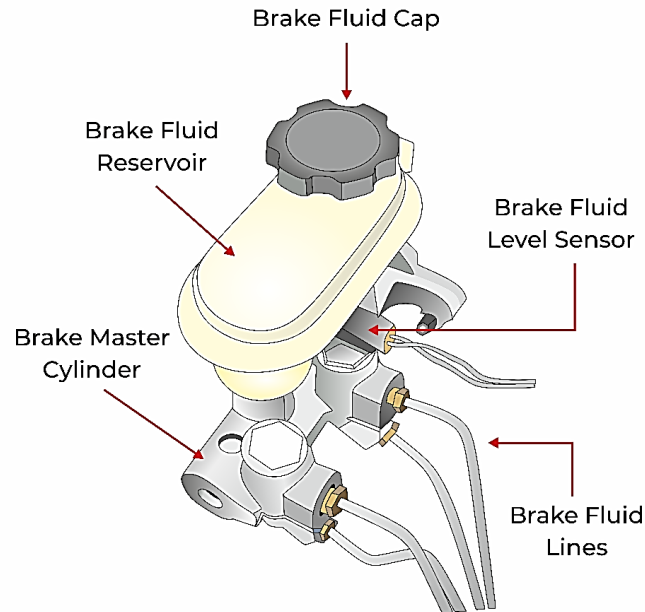

Fig. 2.12: Master cylinder
2. Inspect the brake master cylinder and adjoining brake lines for signs of fluid leakage. Remove the master cylinder cover (Fig. 2.12). Fluid must be clear and fluid level should be within 1/4" of the cylinder top (with the vehicle on level ground).